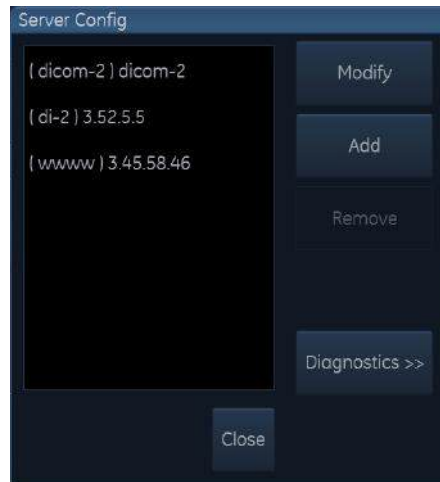

Figure 10-27. Dataflow sheet - Server config section
6. Note that the different devices need to be set up next. Each device must be configured by clicking on the respective **Properties** buttons (see Figure 10-27).